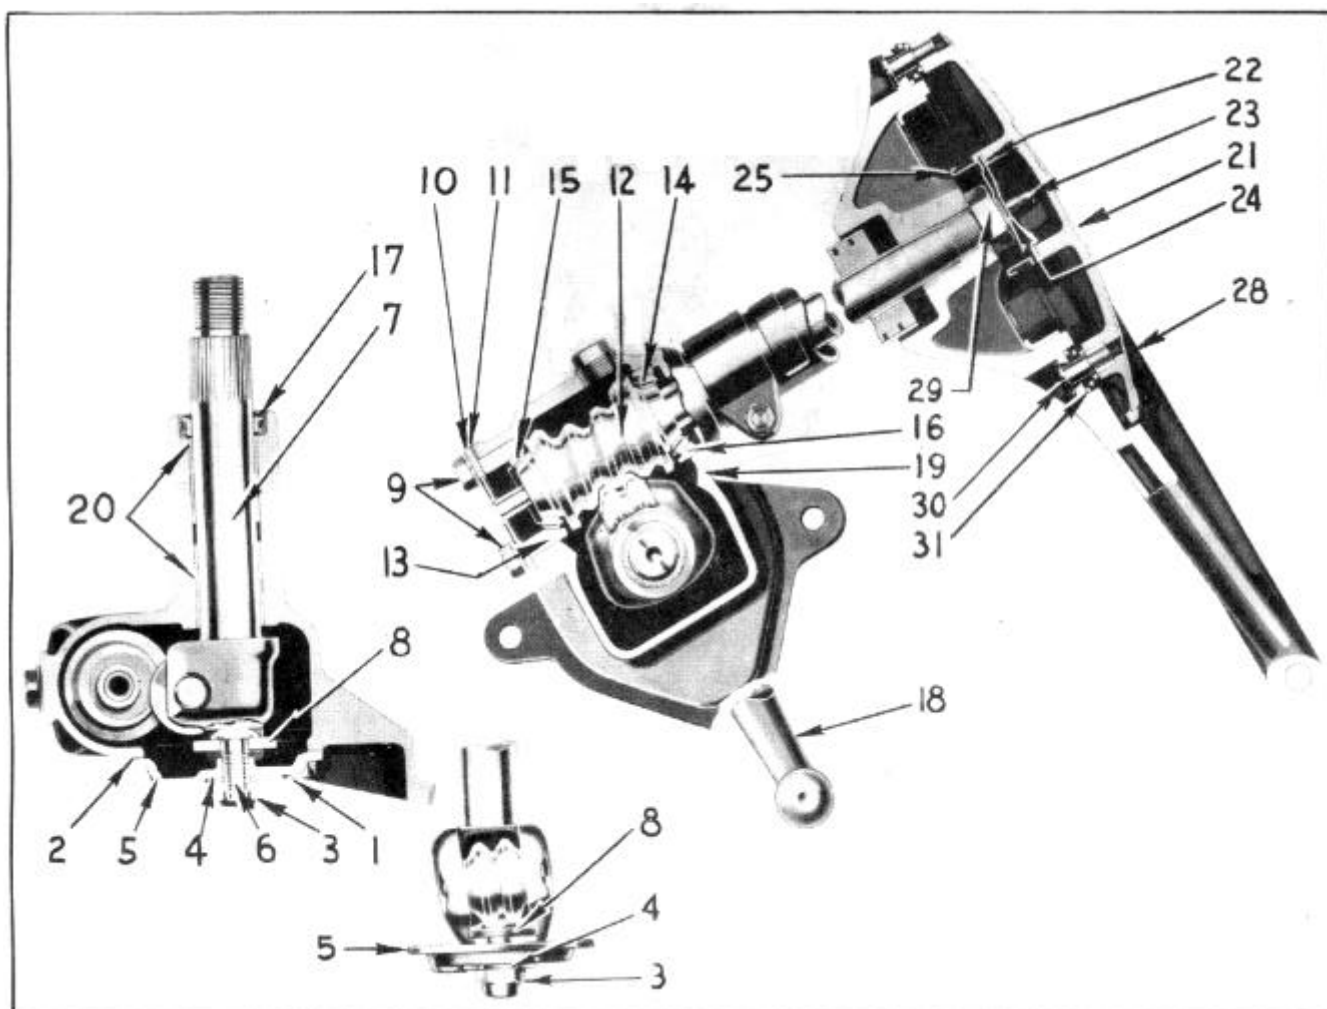
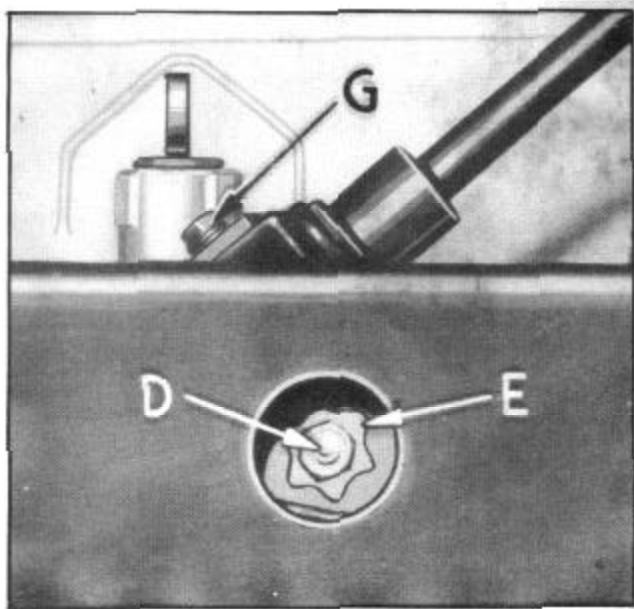

Figure 2--Steering Gear Details
Figure 3--Steering Gear Adjustment and Lubrication
The worm (12) Figure 2, is mounted in two roller bearings (14 and 15) which run in hardened steel races (13 and 16) adjustable by means of shims (11) located at the bottom between the steering gear housing and the worm housing cover (10).
Adjustment for closer mesh of the shaft roller with the worm for the elimination of excessive play is by means of slotted adjusting screw the head of which extends out thru the housing cover on the left hand side (Figure 3). The inner end of the screw is fitted with a hardened steel thrust washer set in a groove in the roller shaft, see (6), Figure 2.
1. Remove the roller shaft adjustment screw lock nut (D), Figure 3, which is accessible thru a hole in the left frame side rail.
2. Slide the lock plate (E) far enough off to clear the lock boss on the roller shaft cover.
5. Tighten roller shaft adjusting screw (6), Figure 2, just enough to remove excessive play between the roller shaft roller tooth and the Worm.
2. Loosen the four worm cover screws (9), Figure 2, about 1/8".
3. Use a knife and separate the top shim passing the knife blade all the way around between the shims (11), Figure 2, being careful not to damage the remaining shims.
Remove oil filler plug (G), Figure 3, and the vent hole cover.